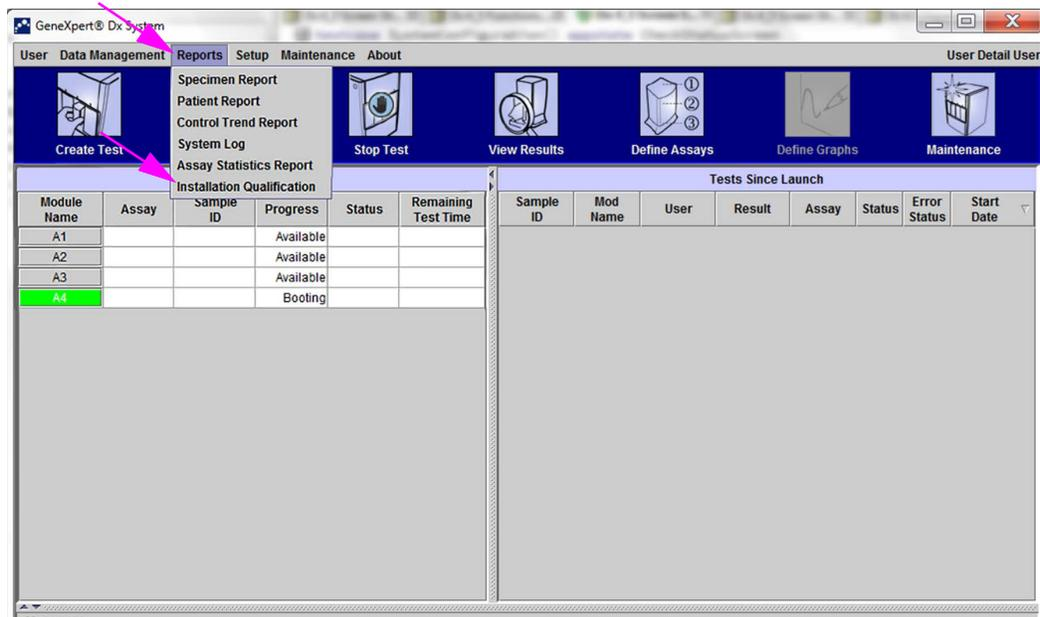

Figure 2-88. GeneXpert Dx System Window showing Reports Drop-Down Menu and Installation Qualification Selection
1. In the GeneXpert Dx System window, on the **Reports** menu, click **Installation Qualification**. See Figure 2-88.